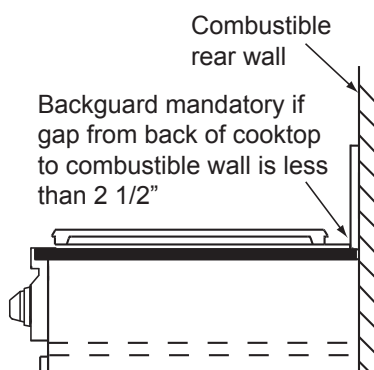

FIGURE 2
- Installation of a non-combustible material* (up to the hood) or a backsplash is always recommended, and mandatory if the distance to the back wall from the cooktop is less than 2 1/2" (Figure 2). When installing a backguard, use only Dacor model numbers AEB3009 (for model DRT304S), AEB3609, AEB3612 (for model DRT366S).